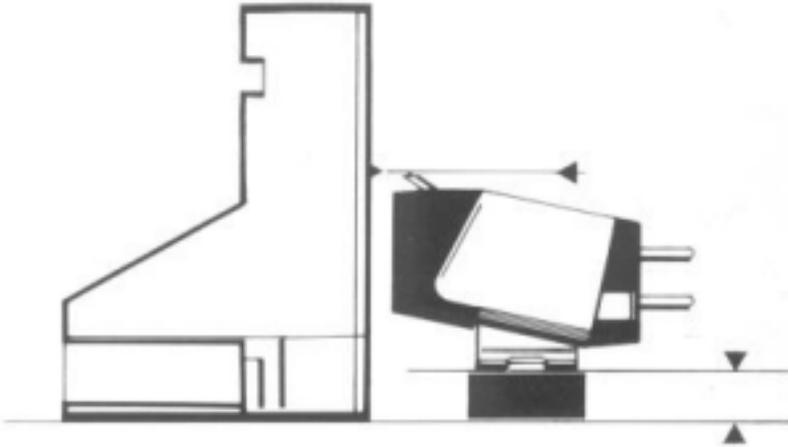

Figure 18
1. Place the pickup cartridge facing the transport mounting guide as shown in Figure 18.